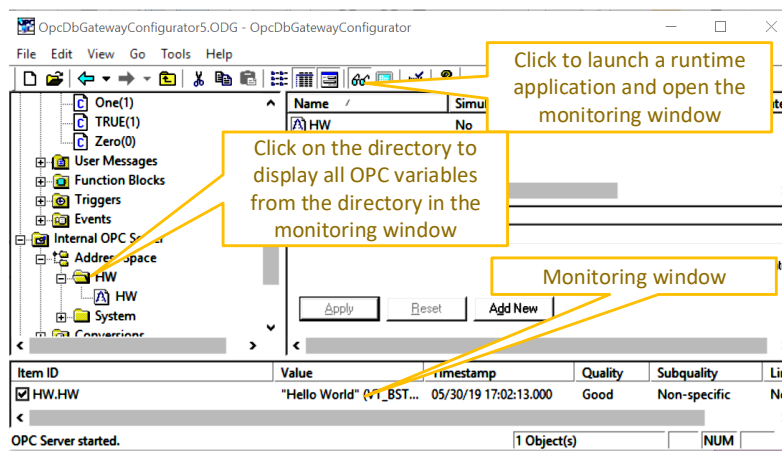
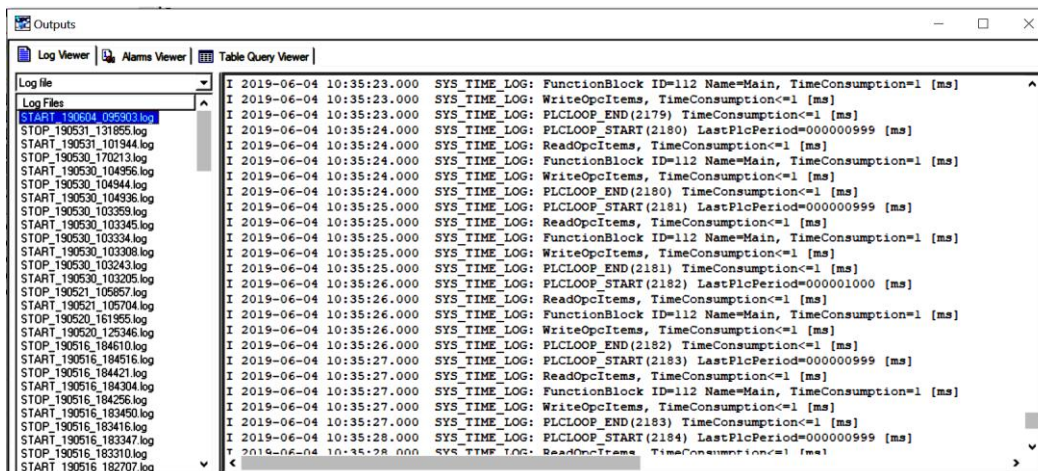

Figure 6 Monitoring of PV content via OPC variable to which it is mapped
Figure 9 Log file with time data recording for individual activities (system variable TimeLog = true)
6. Run the OPC client in the configurator (glasses icon) and the message "Hello World" will appear in the monitoring window (Figure 6).
In OpcDbGateway, we can monitor and influence the functionality of the configured application not only through PVs and OPC variables that are application-specific (Figure 6), but also through **system PVs that are part of an automatically created configuration template**. Part of these variables (in the “Status” directory - Figure 7) is read-only and a part enable also allows writing. E.g. the *System.Status.AsyncQueSize* variable tells you how many activated asynchronous events have not yet been executed. By means of variables in the Control / Log directory named *TimeLog* and *TraceLog*, it is possible, for example, to change a how much application runtime information is written to the log file at runtime (Figure 8, Figure 9). **You can change the value of a control variable by right-clicking on the variable in the monitoring window.**